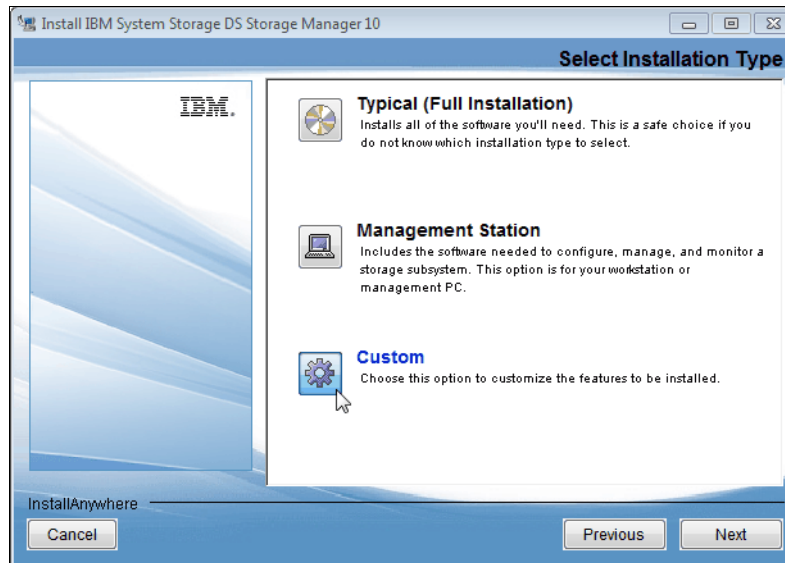

Figure 2-2 Selecting Custom
2. In Figure 2-2, select **Custom**.